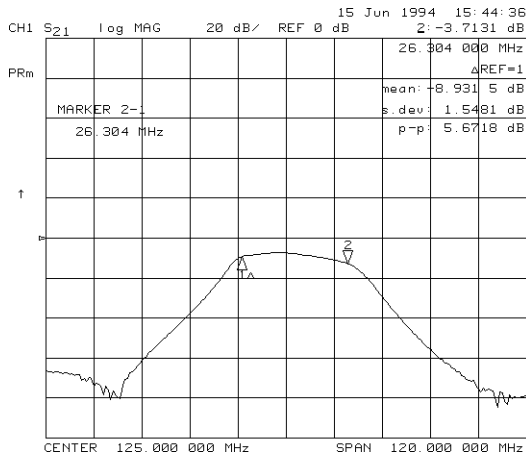

Figure 7-12. Example of the Statistics of Measurement Data
- 4 Press **MARKER FCTN**, **MARKER MODE MENU**, **STATS ON** to calculate and view statistics on the measurement data between the active marker and the delta reference marker, as shown in Figure 7-12.